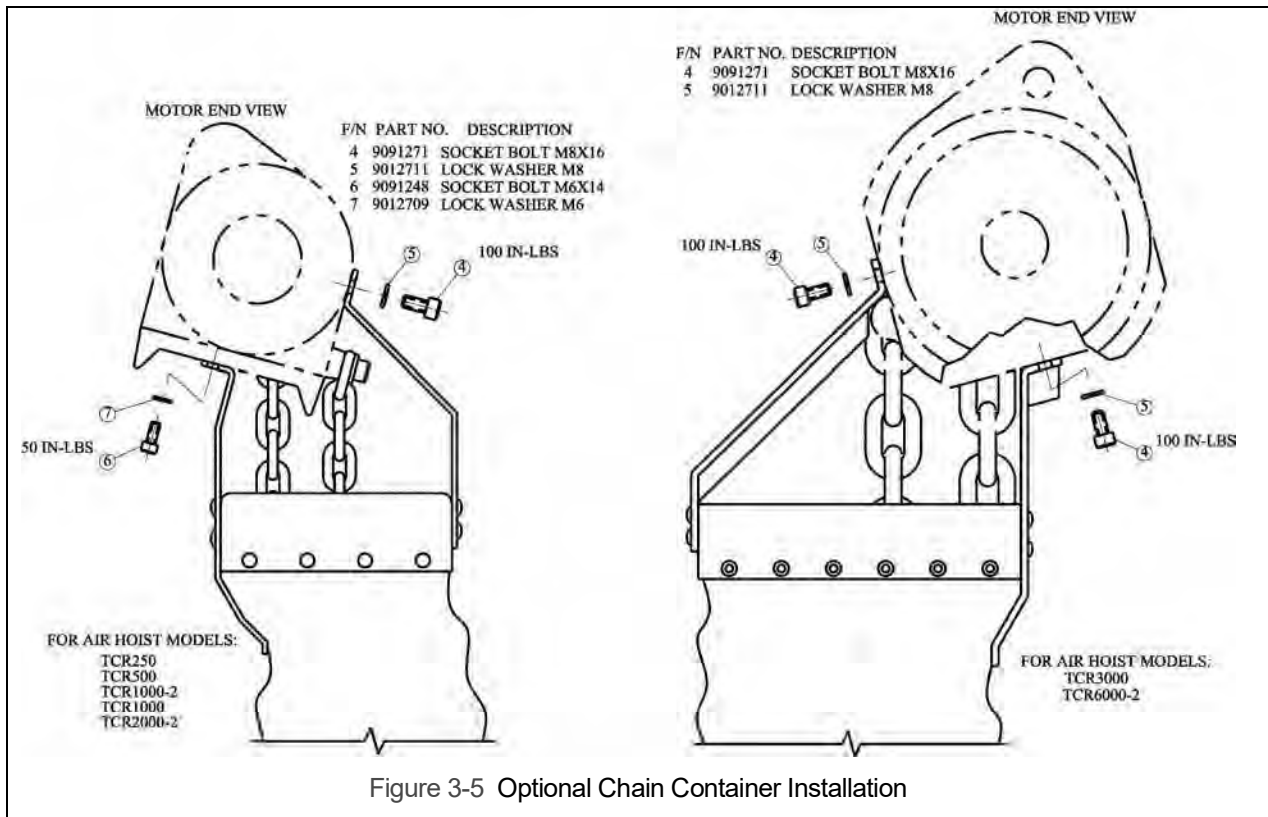

Figure 3-5 Optional Chain Container Installation
3.10.1 For installation of the optional bag style chain container refer to Figure 3-5 below and perform the following: